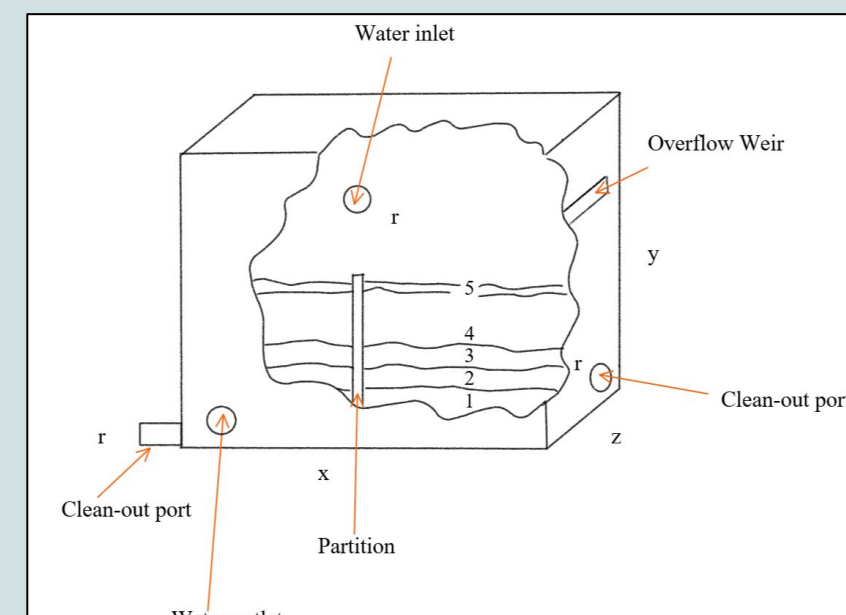

Figure 9: Media Layers
- Mixture of sand and gravel filter media (Fig. 9)